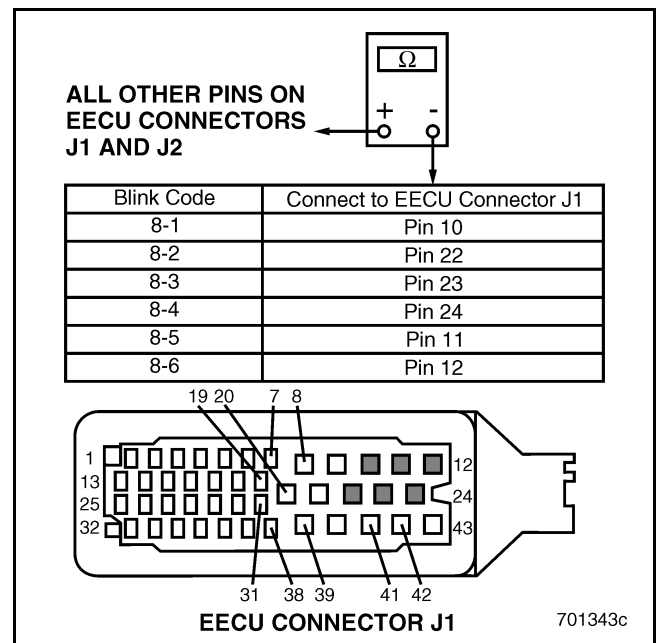

Figure 744
4. Check for continuity between the EECU J1 harness connector pin for the suspect EUP Solenoid (see chart in Figure 744) and all other pins on EECU connectors J1 and J2. If there is NO continuity, go to test “Test 32 — Checking for a Short to Ground at the Electronic Unit Pump (EUP) Harness Connector” on page 586.